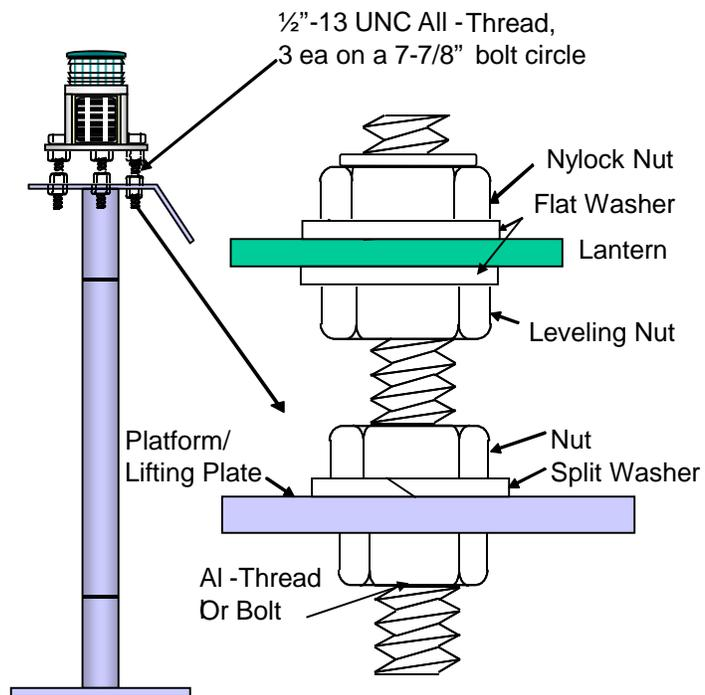

Figure 3-6
- c. Secure three 1/2" stainless steel bolts (or all-thread) to the structure's mounting plate as shown in Figure 3-6. Install three jam nuts on the bolts so that about 1" of thread is exposed. Place the lantern on top of the leveling nuts, then drop on the split washers and position the uppermost nuts at the very upper end of the thread. Do not tighten these uppermost nuts – they are positioned at this time to ensure that the lantern doesn't fall off. Level the lantern on structures by adjusting the leveling nuts (use a torpedo level on the top of the lens or base plate of the lantern - use the "T" method. When the lantern is level, tighten the uppermost nuts.